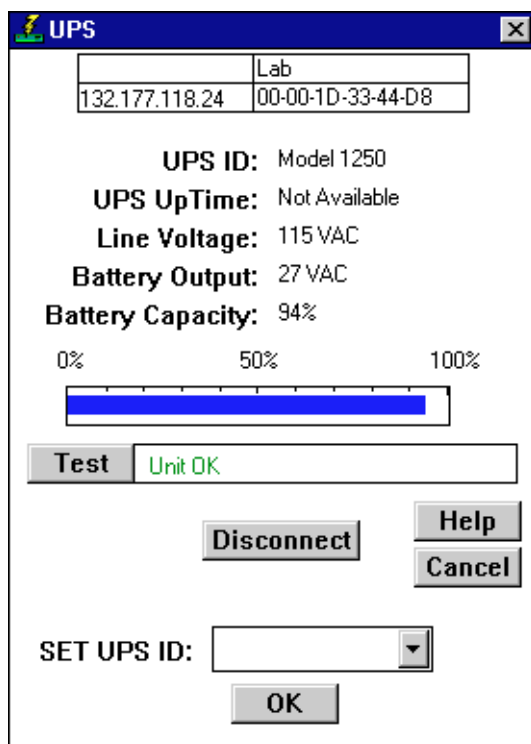

Figure 2-19. The UPS Window
2. Select **UPS**. The UPS window, Figure 2-19, opens.